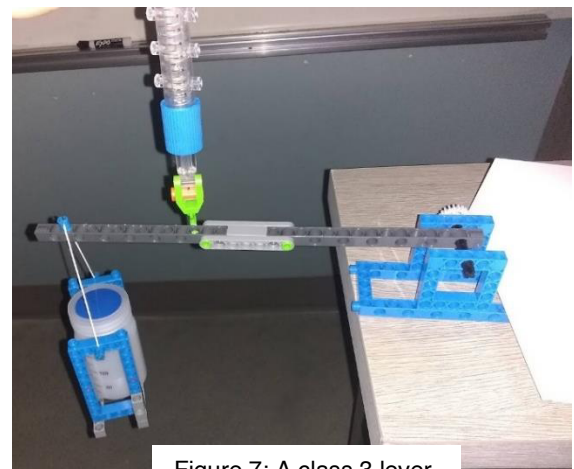

Figure 7: A class 3 lever.
The class 2 lever can easily be converted to a class 3 lever by changing the location of the joint pin, as shown in figure 7.
- 2) Hook the load over the joint pin on the load arm, see figure 7.